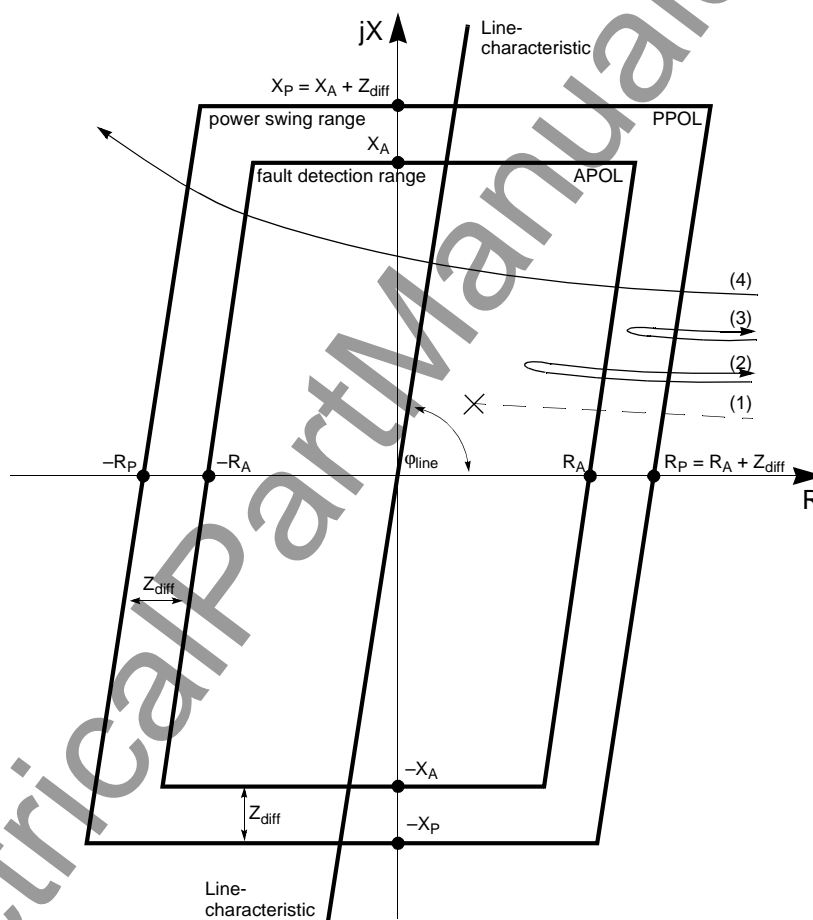

Figure 6-41 Pick up characteristic of the power swing detection for a polygon.
To detect a power swing, the rate of change of the impedance vector is measured. In the case of the polygon characteristic, the measurement is started when the impedance vector enters the power swing measuring range PPOL (refer to Figure 6-41). The fault detection range APOL is made up of the largest set values for R and X of all the activated zones. The power swing range has a minimum distance Z_{diff} of 5 Ω (at $I_N =$
When the impedance vectors identified by the power swing detection exit the power swing characteristic PPOL, the R components are used to check if the vectors have the same sign as was the case when they entered the power swing characteristic. If this is the case, the power swing process is inclined to stabilize. Otherwise, the vector passed through the power swing characteristic (loss of synchronism, case (4) in Figure 6-41). The device issues a three-pole trip command, thereby isolating the two system segments from each other. Power swing tripping is alarmed.